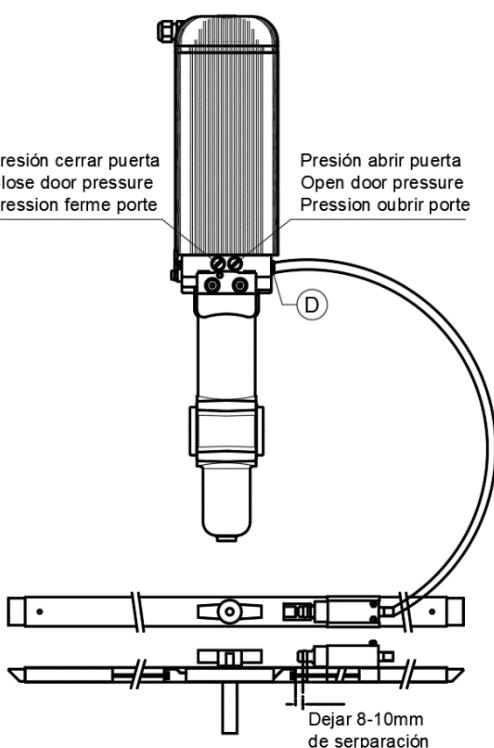

FIG. 9
11. Adjust the pressure of the limiting valves (marks "4" and "5" figure 1) to the minimum possible so that the door does not exert too much force (see figure 9).
12. In case of using a hydraulic lock, see connection figure 9.
Unit 2RU*3S33: Connect the hydraulic lock to the hydraulic lock output (marking "C" fig. 9) in case of type A or B installation and to the hydraulic lock output (marking "D" fig. 9) in case of type C installation.